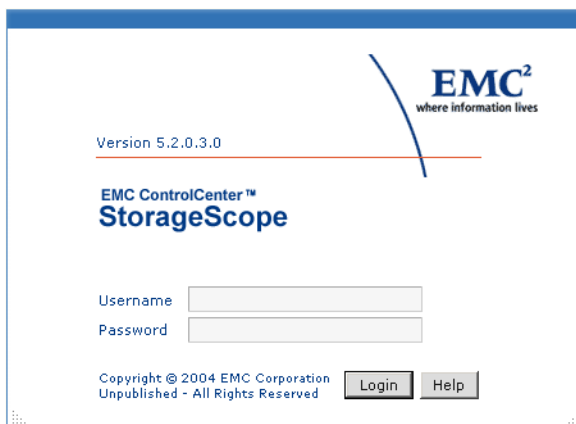

Figure 13-4 StorageScope Login Page
3. When the StorageScope login page (Figure 13-4) appears, enter your ControlCenter username and password, and then click **Login**. The StorageScope home page appears.